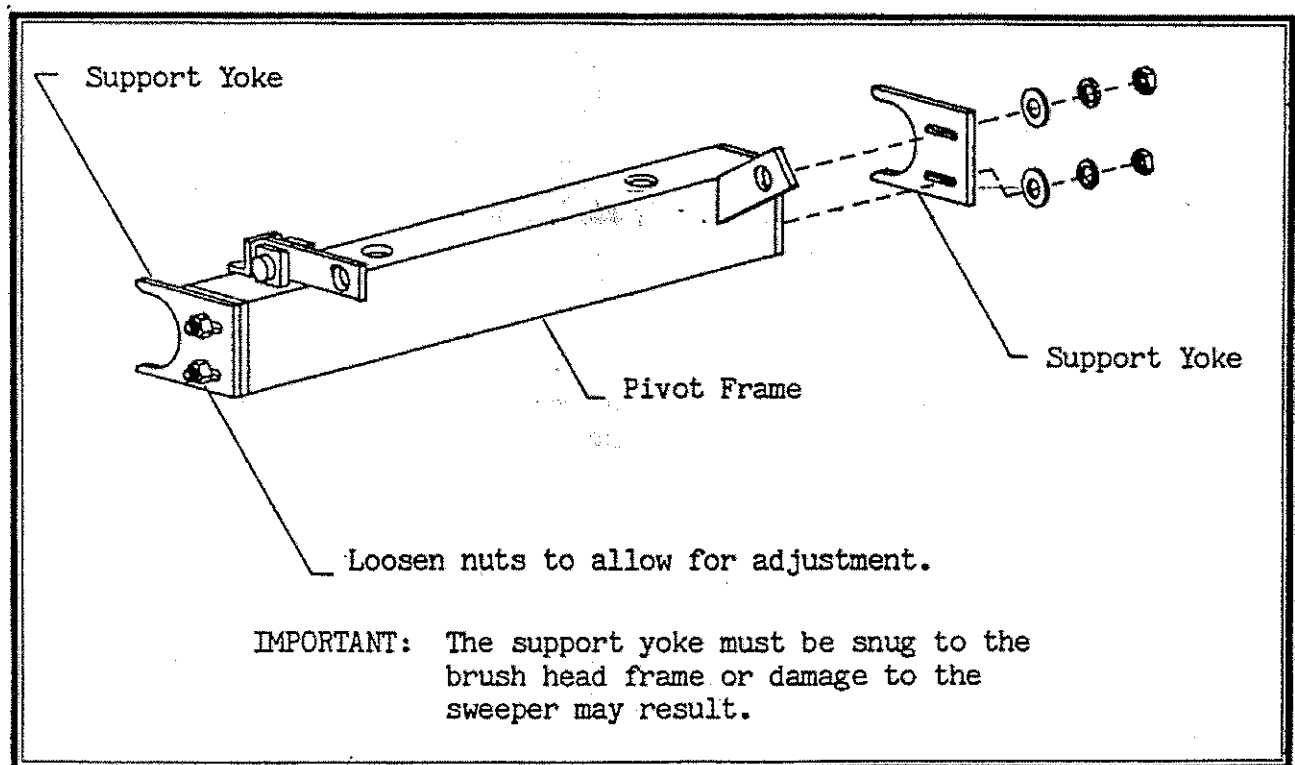

figure 3
1. Loosen two 5/8 carriage bolts in each support yoke (See figure 3).